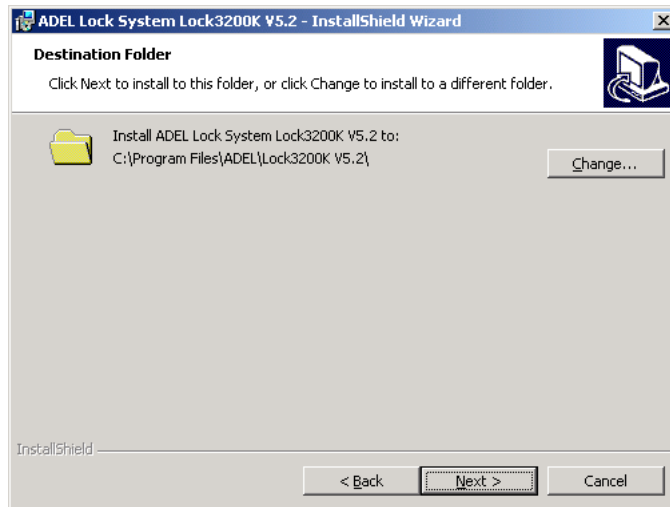

Figure1-14
- 9) Enter **User Name** and **Organization**. The “only for me”, only for current user using; The “anyone who uses this computer”, for anyone using. Click **Next** button and Figure 1-14 appears. Click **Back** button to return to prior page.